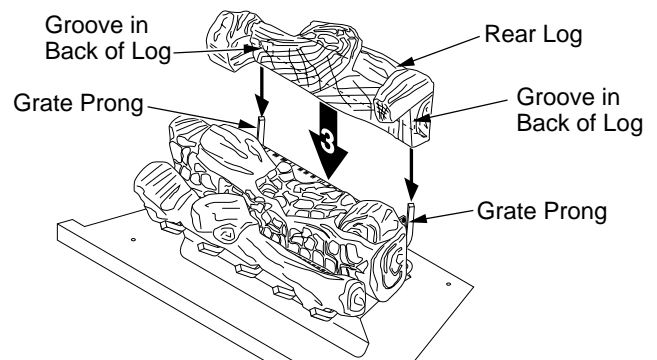

Figure 31 - Installing Rear Log
3. Slide the grooves in the back of the rear log against the rear grate prongs. Make sure the log fits securely over the prongs (see Figure 31). Make sure log is completely vertical and not leaning in toward burner where the flame will touch the log.